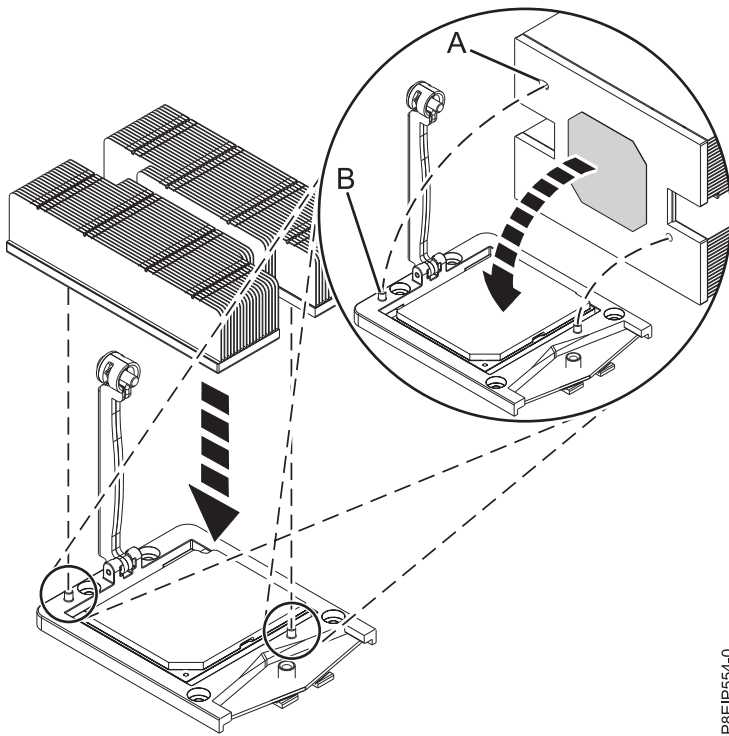

Figure 57. Installing the heat sink
- 5. Install the new supplied heat sink that is provided in the FRU kit. The TIM is pre-applied to the heat sink. Carefully lower the heat sink over the system processor module, ensuring that the holes in the heat sink (A) align with the two guide pins (B) on the socket, as shown in Figure 57.